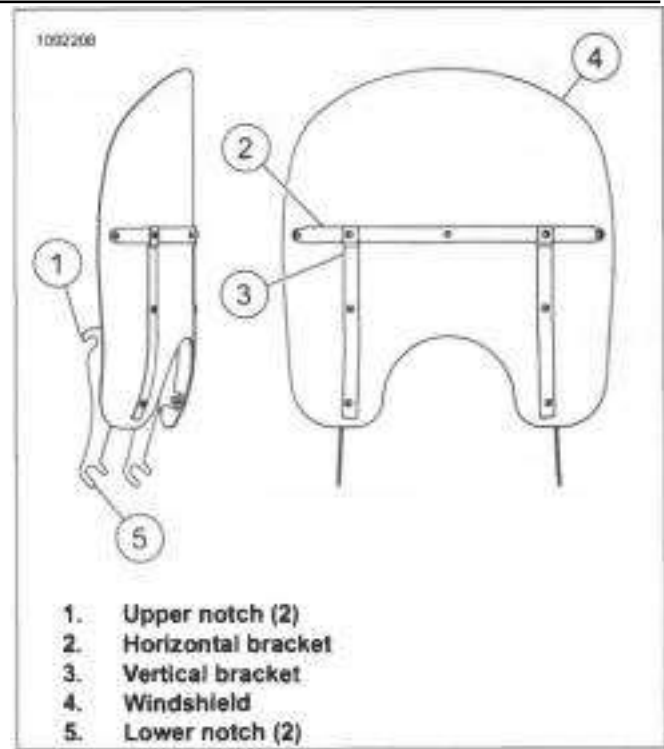

Figure 3-121. Windshield **DISASSEMBLE**
1. See Figure 3-121. Remove windshield.
- a. Grab windshield at either side of horizontal bracket (2).
- b. Pull windshield so that upper notches (1) separate from grommets.
- c. Raise windshield until lower notches (5) separate from grommets.
1. See Figure 3-121. Install windshield.
- b. Push evenly on horizontal bracket (2) until notches are fully seated on grommets.